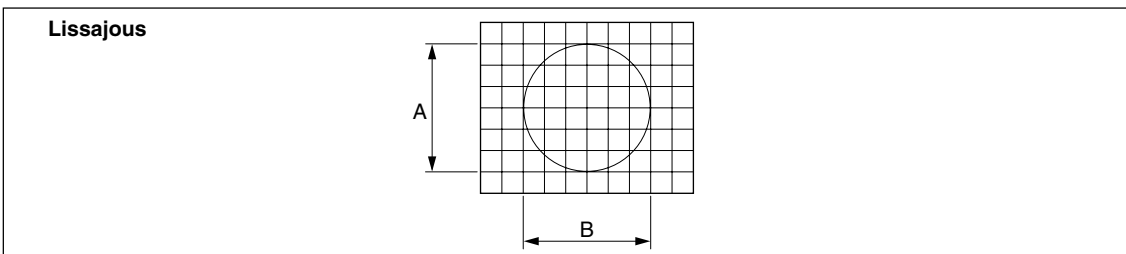

Fig. 3-20
- 5 Move the scale, and make sure that the amplitudes A and B of the Lissajous' figure (see Fig. 3-20) are 1.6 Vp-p or greater over the entire length.